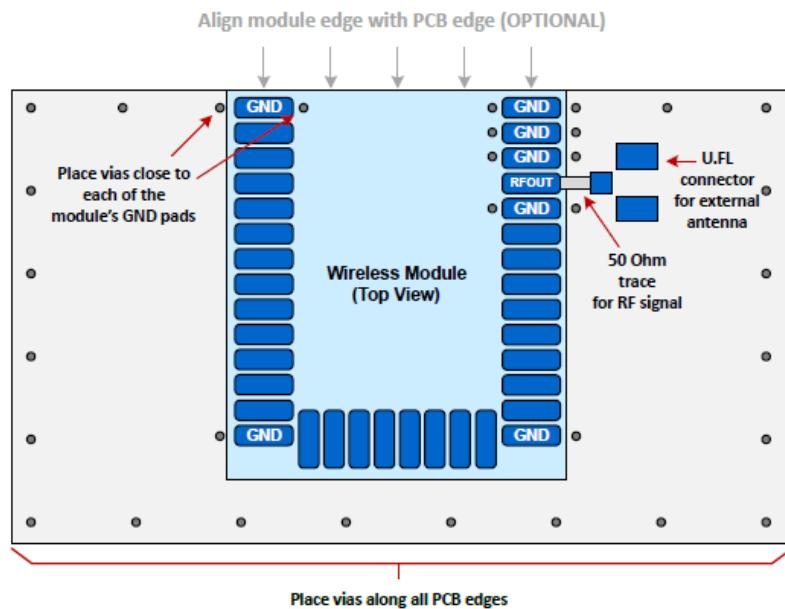

Figure 12: Recommended Layout for Lyra 24P Using External Antenna
- For external antenna use cases, use a $50\ \Omega$ grounded coplanar transmission line to trace the signal from the RF pin to an external MHF4 RF connector if applicable (see Figure 12).